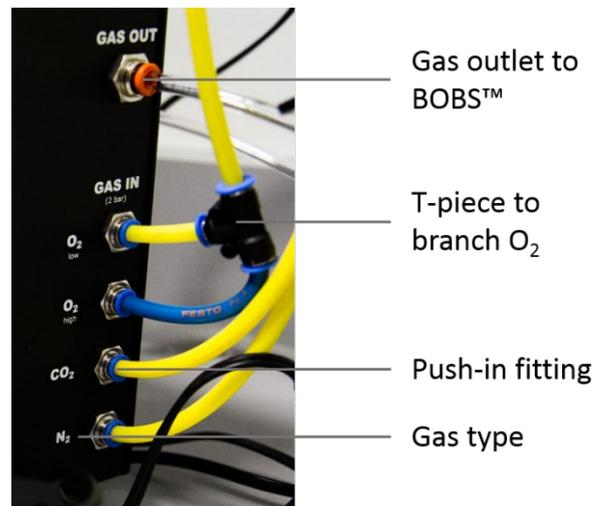

Figure 4. Rear of the GMS.
- b. Push the 6 mm tubing into one of the blue fittings at the rear of the GMS (Figure 4).
- c. Connect the other end of the tubing to the corresponding gas supply as indicated by the gas type label (Figure 4).
- d. To connect O₂ gas you may branch the O₂ gas supply into two tubes using the supplied T-piece. The two ends are then connected to the two O₂ gas fittings at the rear of the GMS (Figure 4).
3. Connect one end of the provided 6 mm tubing with the **orange** push-in fitting located at the top-rear of the GMS labelled as 'GAS OUT' (Figure 4) and the other end with the gas input port of your experimental device.